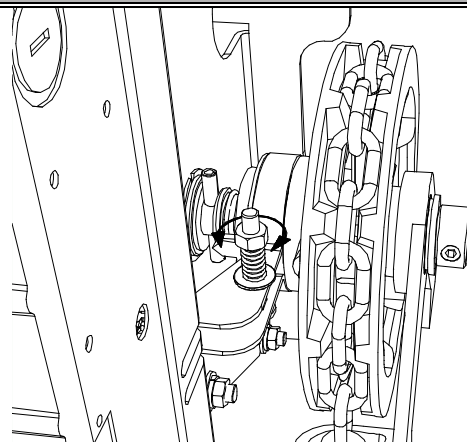

Figure 23 Manual operation system adjustment
3. The automatic hoist engagement system is adjusted in the factory. It may require adjustment in the field. Adjustment is necessary if no door movement occurs after two fetes of pulled hand chain. Turn the adjusting nut clockwise (see figure 23) by  $\frac{1}{4}$  turn until the hoist engages after pulling one fete of chain. If the nut is too tight, the manual torque on the chain will be too heavy.